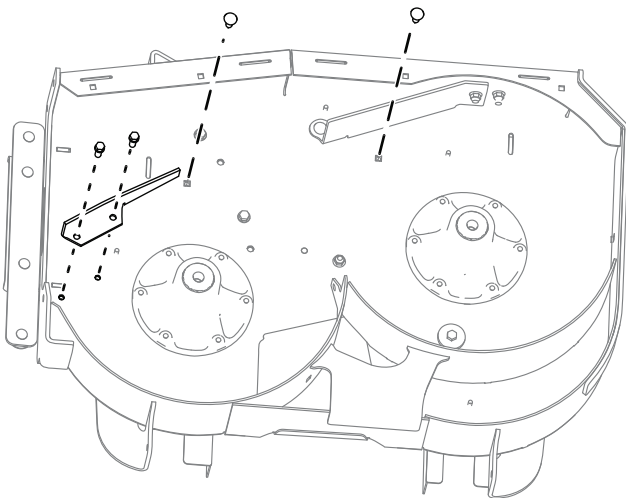

Figure 2
4. Remove the 2 bolts and nuts securing the directional guard to the deck and remove the guard (Figure 2).